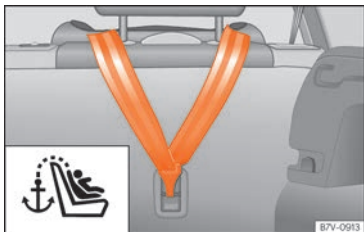

Fig. 31 Back of the rear seats: Top Tether securing rings.
- Slide the strap and secure it properly with the anchorage of the backrest »» **Fig. 31.**